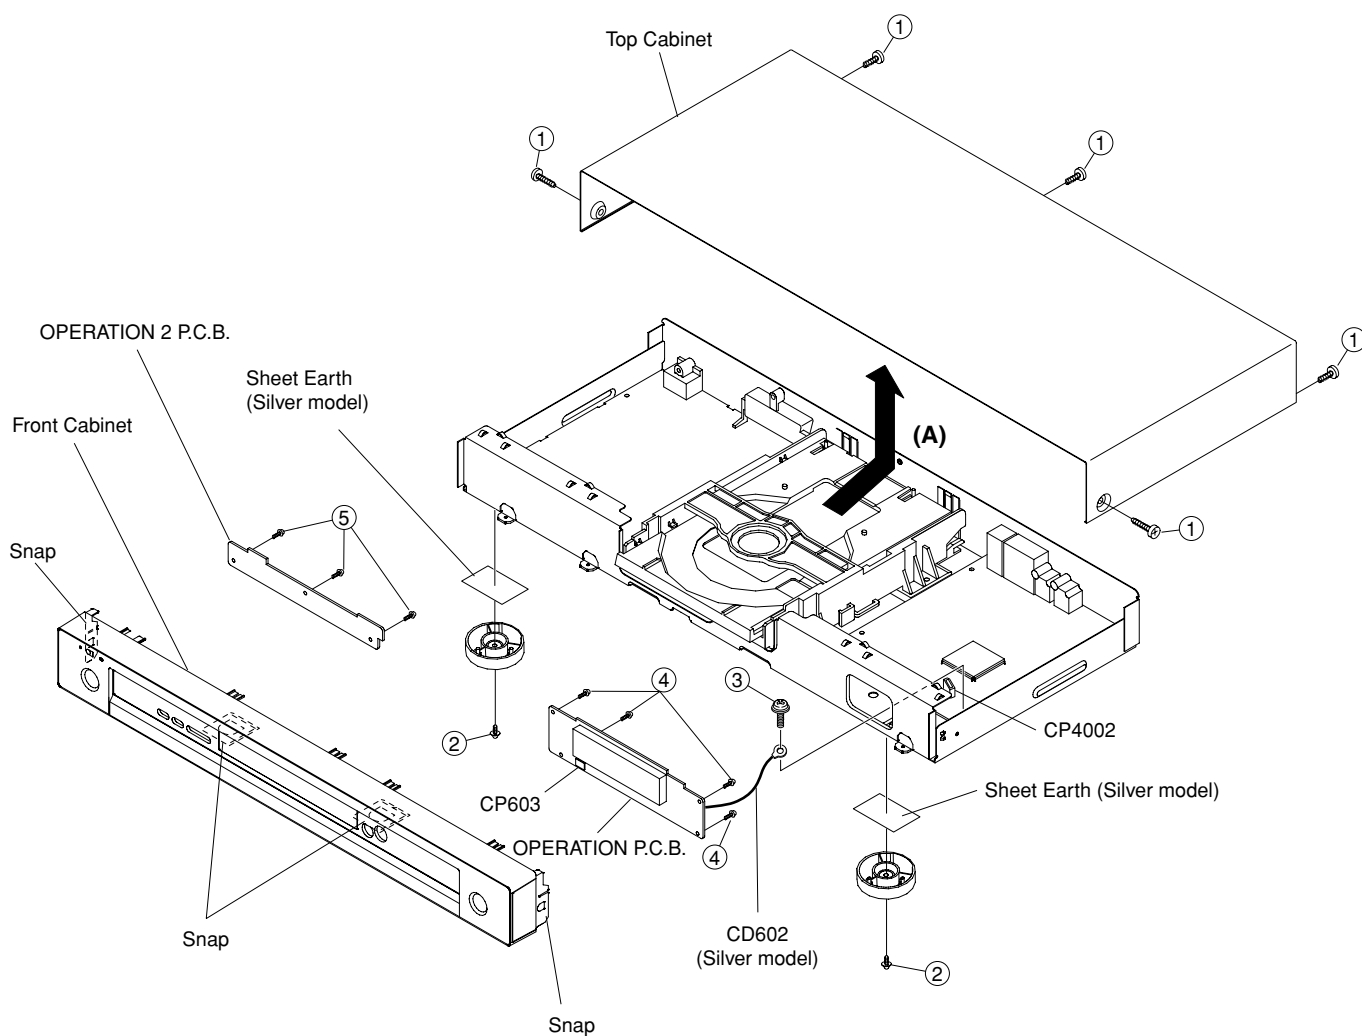

Fig. 2
1. Removal of Top Cabinet (Fig. 2)
- Remove 5 screws (①).
- Remove the Top Cabinet in the direction of arrow (A).
2. Removal of Front Cabinet . (Fig. 2)
- Remove 2 screws (②).
- Remove 1 screw (③) and the cable. [CD602] (Silver model)
3. Removal of OPERATION 1 and OPERATION 2 P.C.B.s (Fig. 2)
- Remove 4 screws (④).
- Remove 3 screws (⑤).